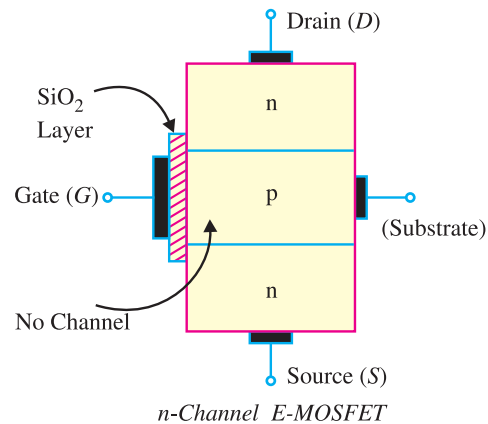

Fig. 19.44
2. E-MOSFET. Fig. 19.44 shows the constructional details of *n*-channel *E-MOSFET*. Its gate construction is similar to that of *D-MOSFET*. The *E-MOSFET* has no channel between source and drain unlike the *D-MOSFET*. Note that the substrate extends completely to the SiO_2 layer so that no channel exists. The *E-MOSFET* requires a proper gate voltage to *form* a channel (called induced channel). It is reminded that *E-MOSFET* can be operated *only* in enhancement mode. In short, the construction of *E-MOSFET* is quite similar to that of the *D-MOSFET* except for the absence of a channel between the drain and source terminals.